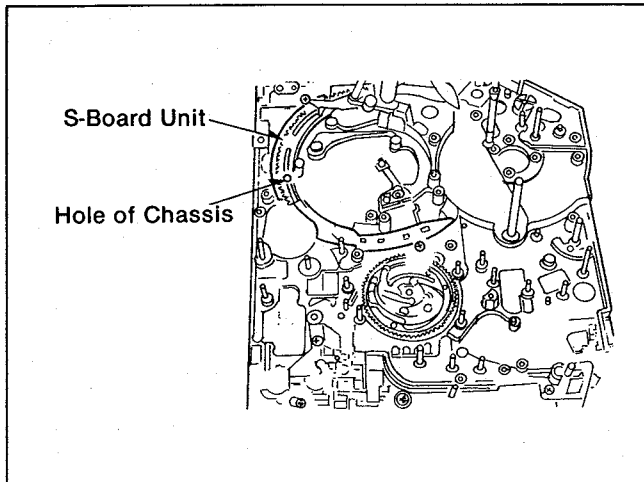

Fig. M5
(1). Install the S-Board Unit as shown in Fig.M5.